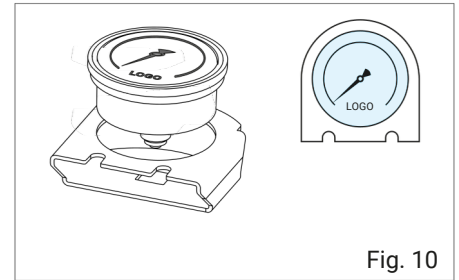

Fig. 10
Make sure that you insert the manometer in the correct way. The manometer logo must be on the straight side of the manometer holder (Fig. 10). Now place the new protective glass (19) on the housing ring. The smaller diameter of the protective glass must be at the top. Continue with step 9 - Mounting the manometer.